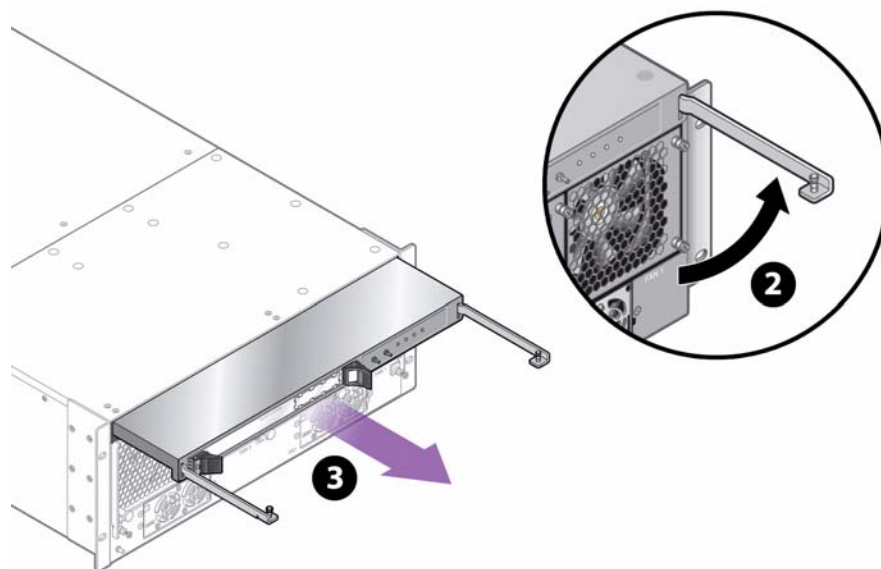

Figure 2 Removing the Fabric Interconnect F1-15 Front Panel Assembly
- Step 3** Simultaneously grasp both of the release levers and slowly raise them until they are horizontal (2), then use the levers to carefully slide the assembly out of the chassis (3). See Figure 2.
- Step 1 Carefully align the FP-2 with the Front Panel bay in the chassis. Make sure that the FP-2 is facing up, and the handles are pointing straight towards you as shown in (3) in Figure 2.
- Step 3 When the FP-2 plug has contacted the socket inside the chassis, simultaneously grasp both of the release levers and slowly lower them until they are vertical and flush with the chassis. This step is the reverse of (2) in Figure 2.